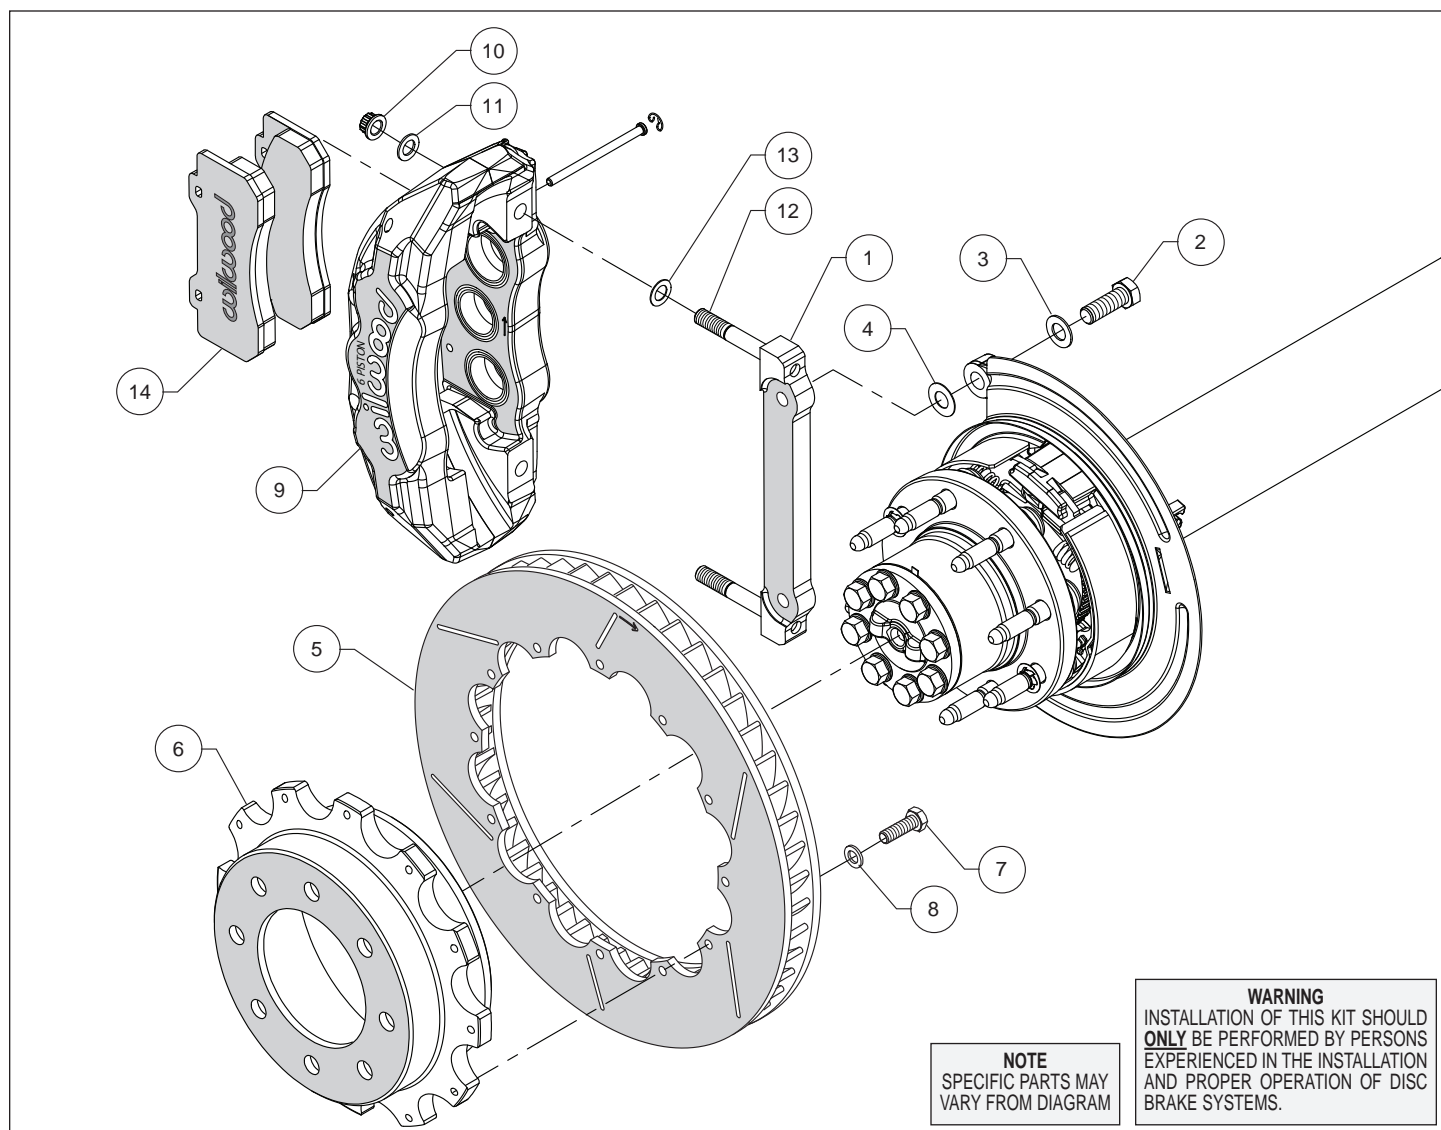
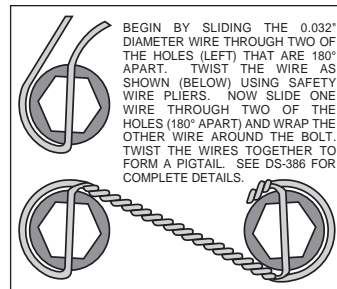

Figure 1. Typical Installation Configuration
Figure 3. Safety Wire Diagram
**Assembly Instructions** (numbers in parenthesis refer to the parts list and Figure 1 on the preceding pages):
- The caliper mount bracket (1) should initially be installed with clean, dry threads on the mounting bolts. Orient the bracket as shown in Figure 1 and Photo 1, and install using bolts (2) and washers (3). Initially place one .029 thick shim (4) on each bolt between the bracket and upright, Figure 1. Temporarily tighten the mounting bolts. **NOTE:** *The bracket must fit squarely against the mount bosses on the upright.* Inspect for interference from casting irregularities, machining ridges, burrs, etc. Later, after the caliper alignment has been checked, the mount bolts will be secured using red *Loctite*® 271.
- Orient the rotor (5) and the hat (6) as shown in Figure 1 and Photo 2. Attach rotor to hat using bolts (7) and washers (8). Using an alternating sequence, apply red *Loctite*® 271 to the threads, and torque to 25 ft-lbs. The bolts must be safety wired using standard 0.032 inch diameter stainless steel safety wire as shown in Figure 3. Please refer to Wilwood's data sheet DS-386 (available at [www.wilwood.com/Pdf/DataSheets/ds386.pdf](http://www.wilwood.com/Pdf/DataSheets/ds386.pdf)) for complete safety wire installation instructions.
- NOTE:** *This kit contains distinct right and left hand calipers that must be mounted in a specific direction, as described below.* Lubricate the caliper mounting studs (12) with lightweight oil. Initially place one .032" thick shim (13) on each stud as shown in Figure 1 and Photo 3. Mount the caliper (9) onto the bracket (1) using lock nuts (10) and washers (11), Figure 1. Ensure that the caliper is mounted so that the largest pistons are at the rotor exit end of the caliper, in relation to the direction of rotor rotation. Temporarily tighten the lock nuts and view the rotor through the top opening of the caliper. The rotor should be centered in the caliper, Photo 4. If not, adjust by adding or subtracting shims (4) between the bracket and the upright. Always use the same amount of shims on each of the two mounting bolts. Once the caliper alignment is correct, remove the bracket mounting bolts (2) one at a time, apply red *Loctite*® 271 to the threads, and torque to 77 ft-lb.